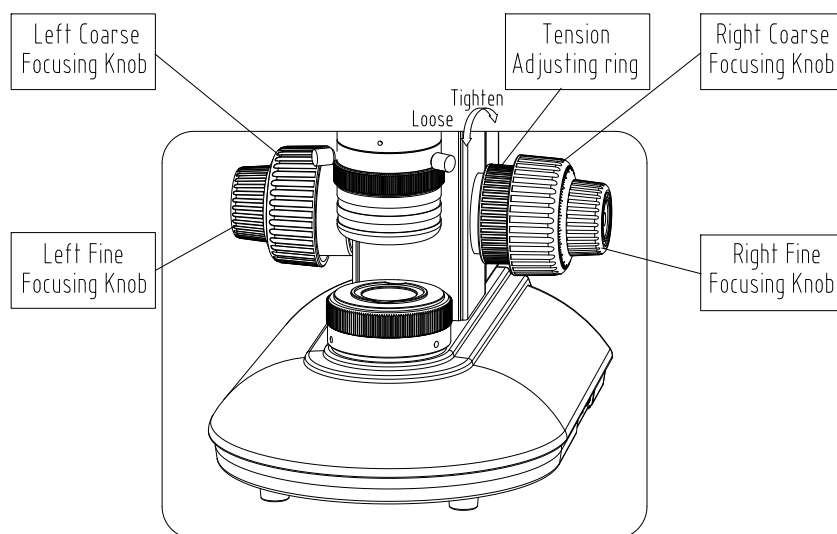

Fig.6
3.2.7 Usage of the tension adjustment ring (Shown in Fig.6)